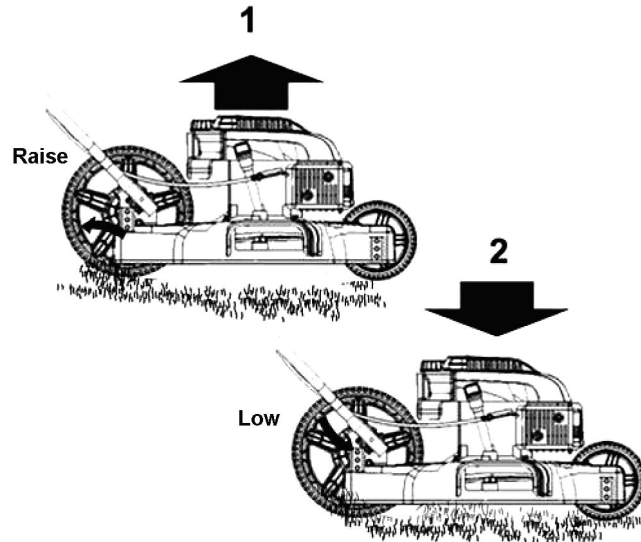

Figure 6
1. Remove dipstick, wipe it clean, and fully re-insert it, check to see if oil is needed by the oil mark that is left the dipstick. (Figure 6)
Adjust the cutting height as desired. Set all four wheels to the same height. Note: To lower the mower, move the cutting height levers forward; to raise the mower, move them towards the rear. (Figure 6)